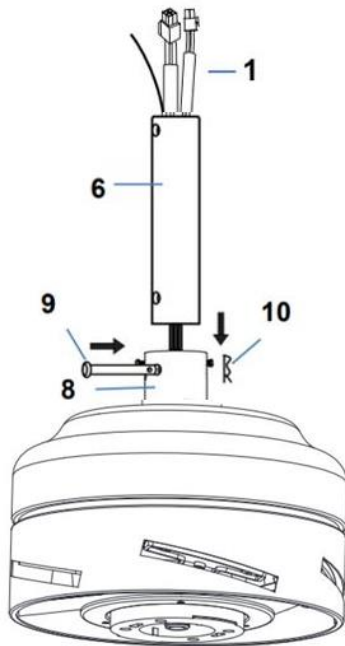

Fig. 4.3
3. Carefully feed the fan wires (1) up through the down rod (6). (Fig. 4.3)
4. Assemble the down rod (6) into the down rod coupling housing (8), by inserting and line up the down rod coupling housing holes with the down rod holes and insert the hitch pin (9) and secure with the lock clip (10). (Fig. 4.3)